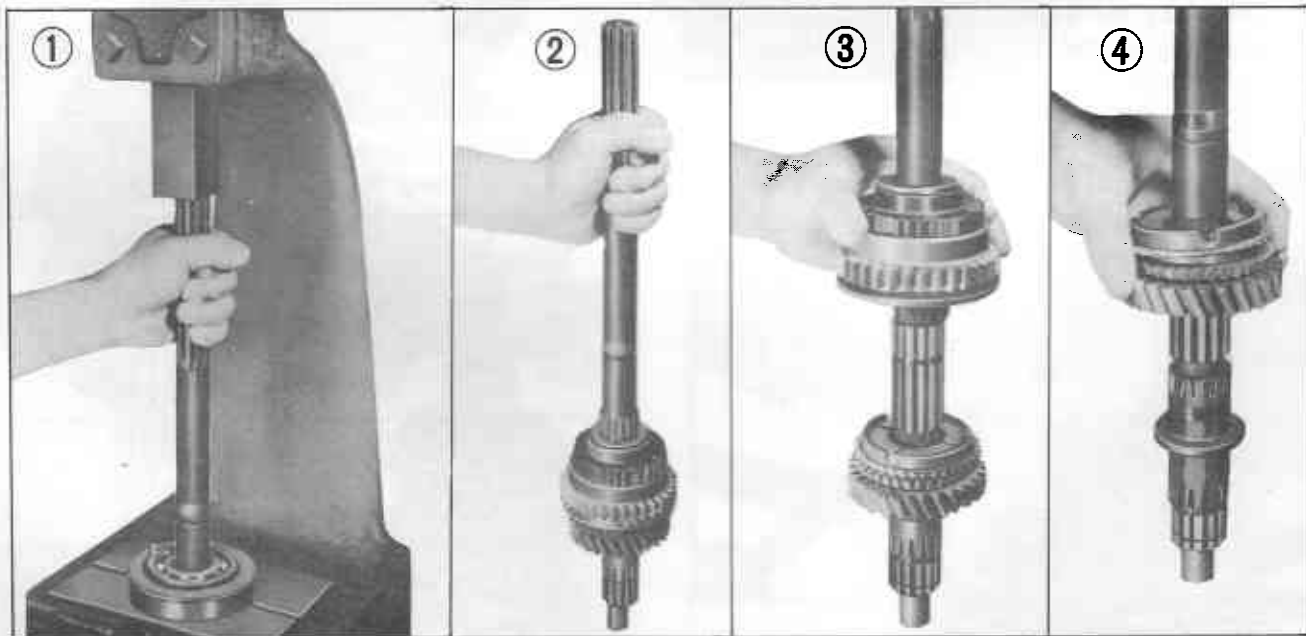

Fig. TM-23 Removing the main shaft bearing and gears
4. Press out the main shaft bearing and retainer as shown in Figure TM-23, item 1.